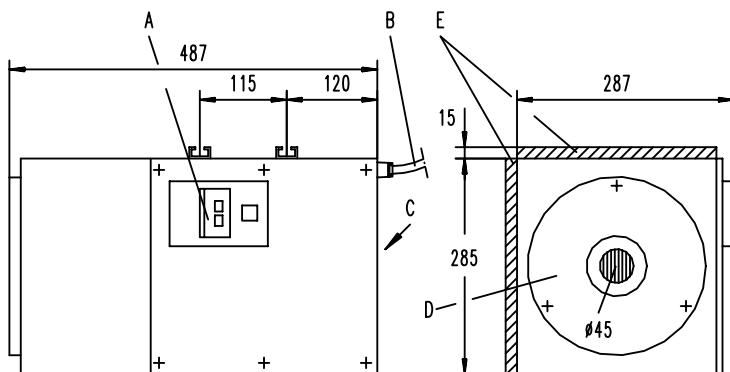

Fig. 1
- A = (fig. 1) motor protection-switch
- E = (fig. 1) C-rails, 28 x 15, for fastening / supporting; location on two sides
The angular vacuum corresponding to fig. 1 may be controlled such that it only vacuums during movement; it is designed for continuous operation.